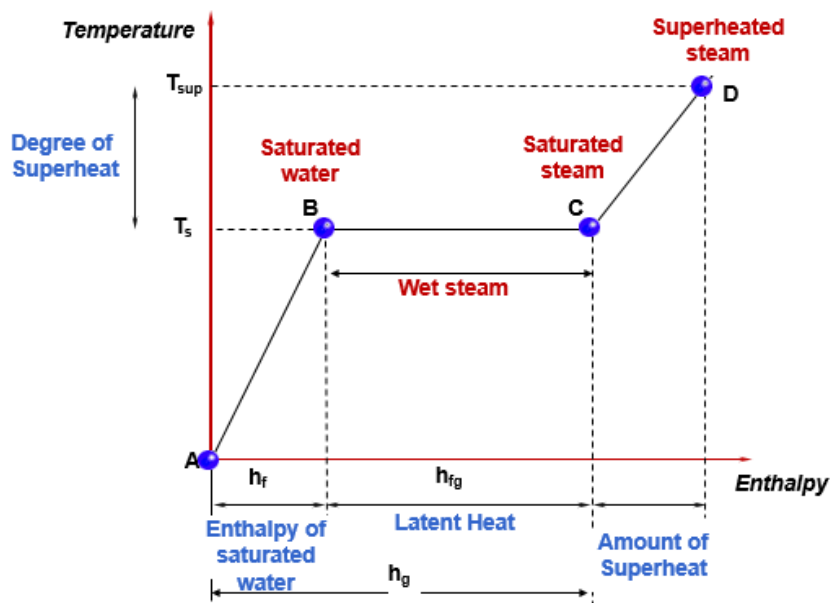

Fig.1.3: Temperature-Enthalpy Diagram
1.1. A chosen weight is placed over the piston so that the total weight of the piston and the chosen weight exert the required constant pressure “P” on the water. This condition of water at  $0^{\circ}\text{C}$  is represented by the point “A” on the Temperature-Enthalpy graph as shown in Fig.1.3.